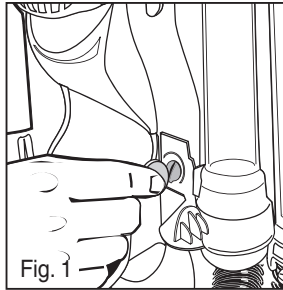

Fig. 1
- 1) Use a coin to turn twist lock to 'unlock' (Fig. 1).
- 5) Adjust small tube until twist lock is in proper position against back of vacuum. Use a coin to turn twist lock to 'lock' (Fig. 1).